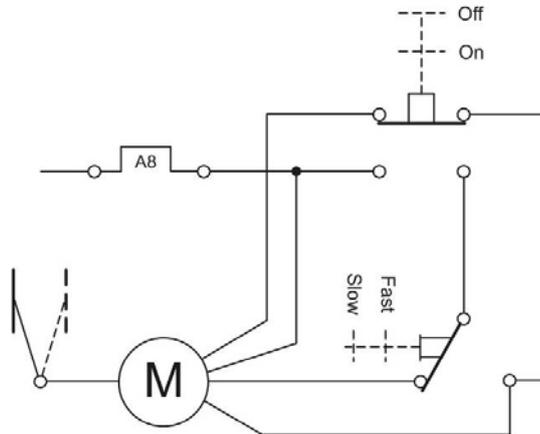

Figure 75 Windscreen Wipers
**184. Windscreen Wipers.** The self-parking wipers (Figure 75) may be operated at two speeds. When the ignition is switched on, power is applied to circuit breaker A8. In position 1 (slow), power is fed to the wiper motor and the wipers drive at normal speed. In position II (fast), the field intensity of the wiper motor is increased and the wipers drive at fast speed. When the wipers are switched off, the motor continues to drive until the supply to the motor is removed by the internal park switch.